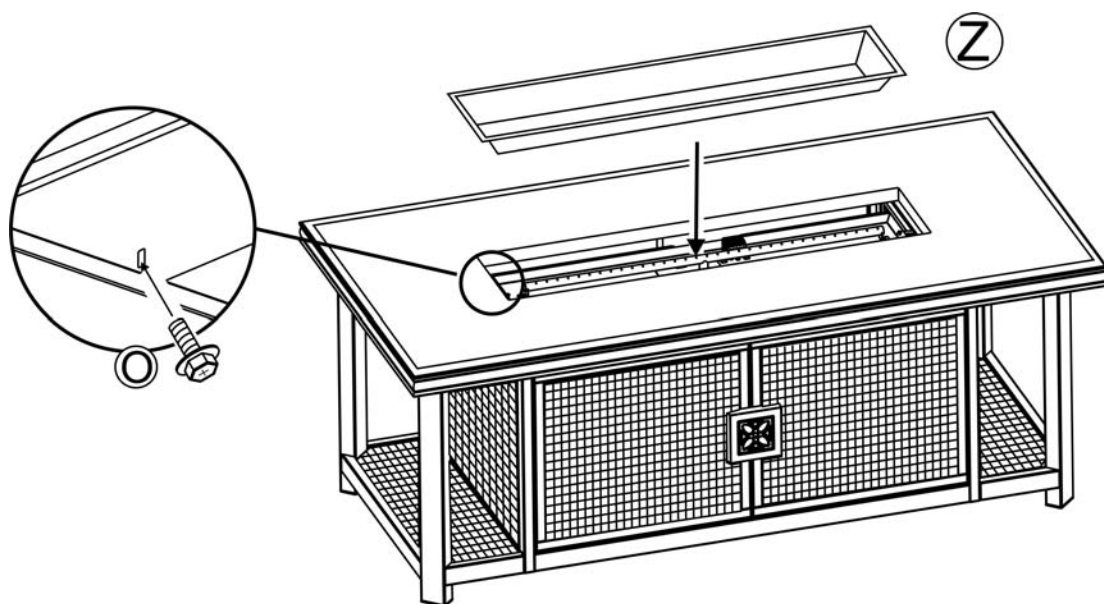

Figure 5
5. Place the burner pan protective ring into the firepan/burner assembly as shown in Figure 5. Align the holes in the burner pan protective ring with the pre-drilled holes on the firepan/burner assembly. Secure the burner pan protective ring to the firepan/burner assembly by using the M4 screws as shown in Figure 5.